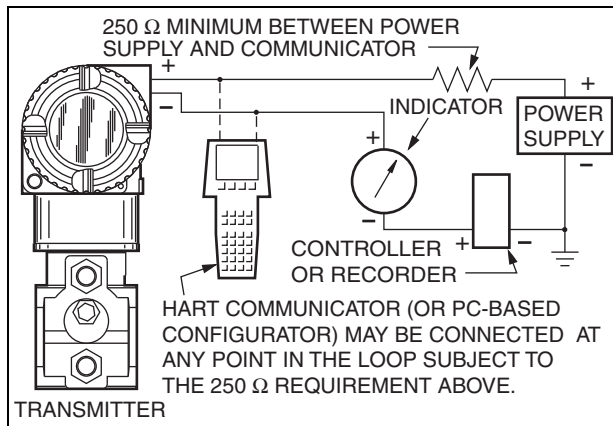

Figure 20. HART 4 to 20 mA Topology
- ▶ **4 to 20 mA Analog Mode:** Analog output signal is updated 30 times per second. A minimum loop load of 250 ohms is required. See Table 1 for communication parameters, and Figure 20 for a typical functional block diagram.